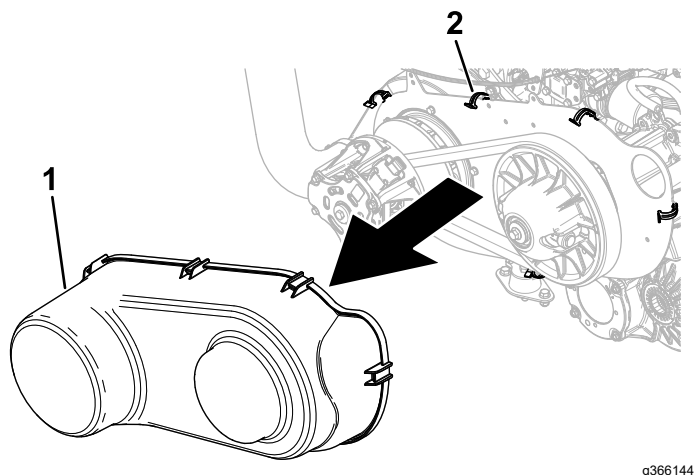

Figure 129
5. Unlatch the 6 spring clips securing the belt cover and remove the cover (Figure 129).
8. Install the belt cover (Figure 129).
10. Install the belt cover (Figure 129).